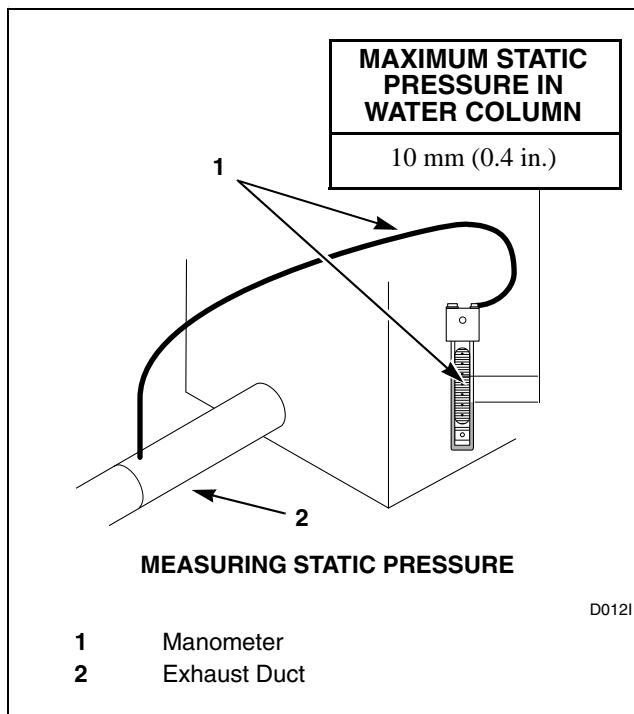

Figure 29
Static pressure in the unit's exhaust duct should be no greater than that shown in *Figure 29*. (Check with dryer running and no load.)
**NOTE: This can be measured with a manometer placed on the exhaust duct approximately 610 mm (2 feet) from the unit. Refer to *Figure 29*.**
**IMPORTANT:** Static pressure in unit's exhaust duct should be no greater than that shown in *Figure 29*. This can be measured with a manometer placed on the exhaust duct approximately 610 mm (2 feet) from the unit. Refer to *Figure 29*. All dryers connected to the main collector duct should be in operation when pressure is checked.